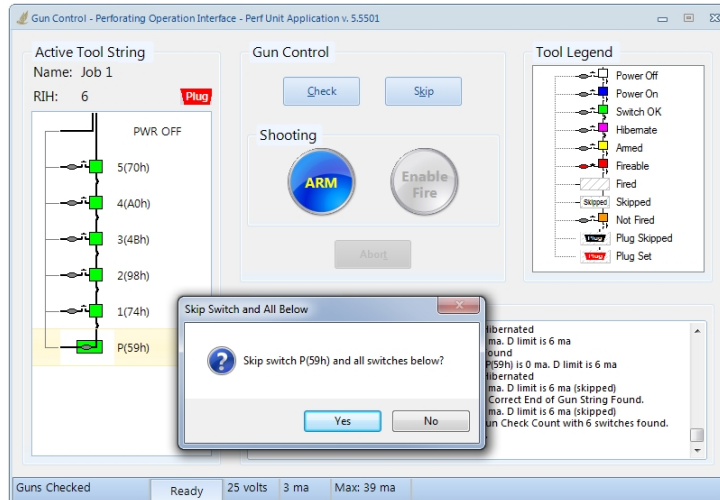

Figure 39
1. Click on the **Skip** button as shown in Figure 39. A window will appear asking user if they wish to skip the bottom most readable switch, in this case plug switch P(59h). Click “Yes”.